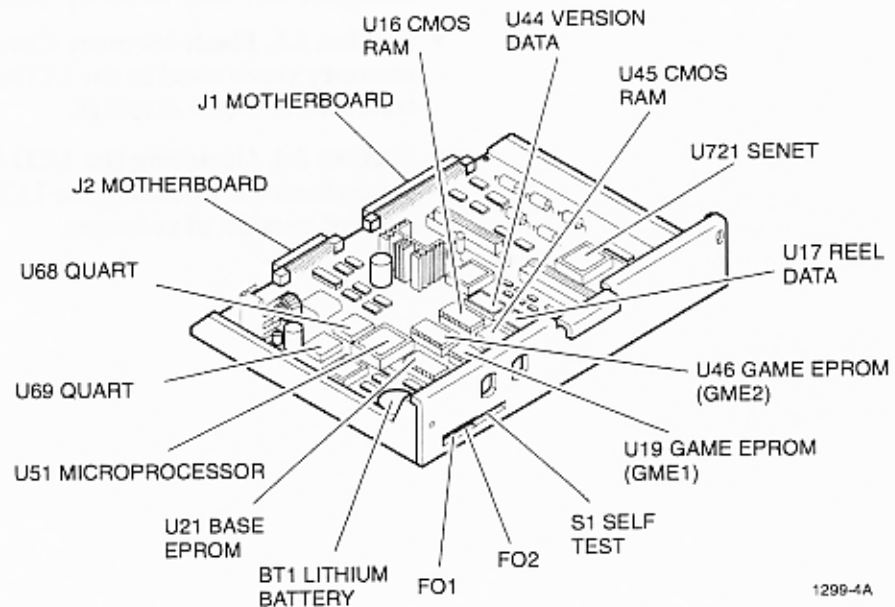

Figure 3-1. Processor Board (p/n 757-105-0X) Component Locations.
To remove or install integrated circuit (IC) chips on the processor board, see Figure 3-1 and proceed as follows.
The ICs intended for field replacement are the two game EPROMs (U19 and U46) and the base EPROM (U21) shown in Figure 3-1.